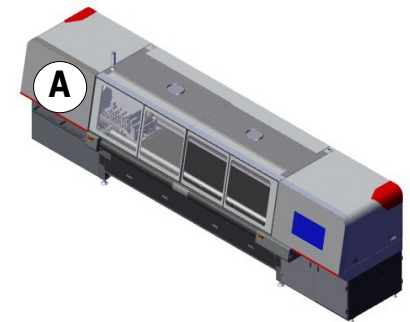

Figure 5-1 Printer Front View
1. Open carriage access door to access the printer carriage, Figure 5-1 (A).